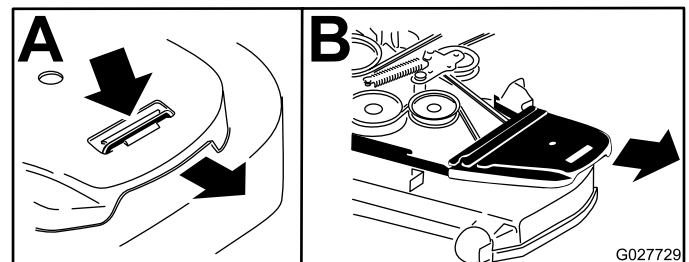

Figure 80
6. Remove the belt covers and the bolts attached to them (Figure 80).